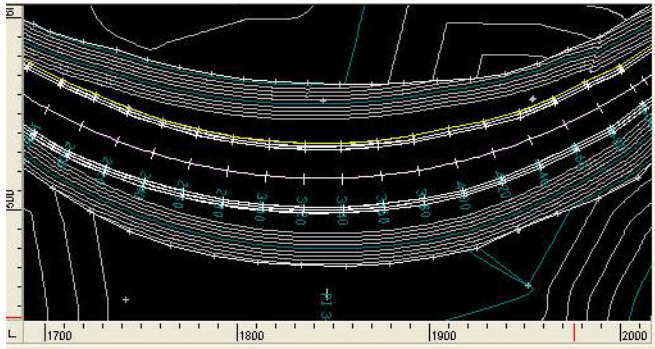

Figure 18-2. Alignment Pane
- Alignment Pane (left) – displays the alignment and design strings. The plan data from the Survey View may also be shown (Figure 18-2 on page 18-2).